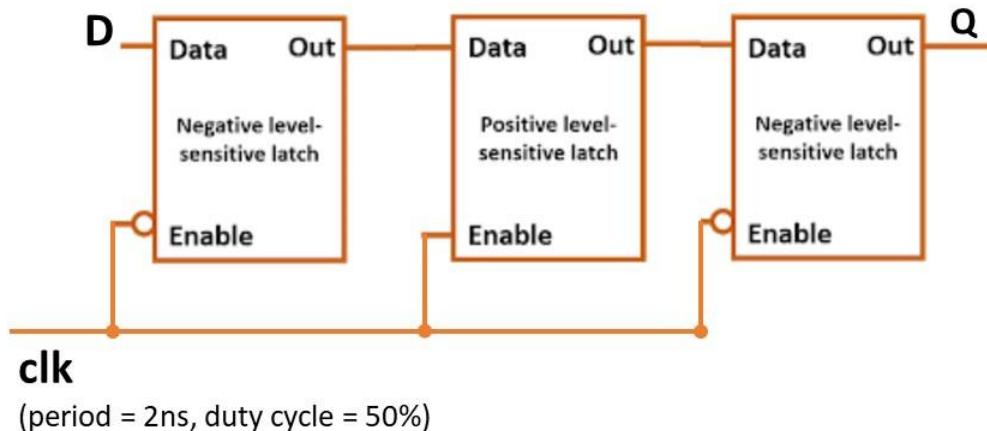

Figure 10.
- a. Consider the standard cell constructed in Fig. 10 below